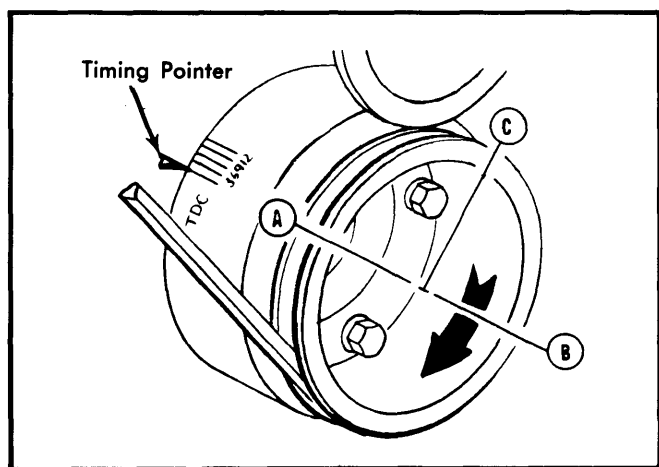

Fig. 5 Different Positions to Place Crankshaft Damper When Making Hydraulic Valve Lifter Adjustment
1) Rotate crankshaft until No. 1 piston is at TDC (point "A" in Fig. 5) after compression stroke as indicated by timing mark on crankshaft damper and pointer. Make a chalk mark on damper 180° (point "B") from TDC mark. Make a chalk mark on damper 90° (point "C") clockwise from TDC mark.